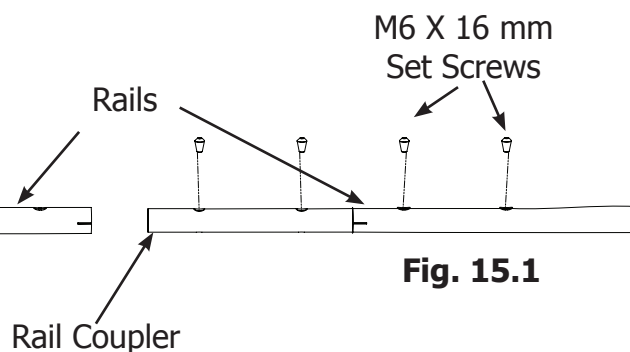

Fig. 15.1
15-1: Slide a Rail Coupler into the open end of a Fabric Rail Assembly with a Ratchet and line the holes up. Use (2) M6 X 16 mm Set Screw to tighten the Rail to the Coupler, as shown in Fig. 15.1.